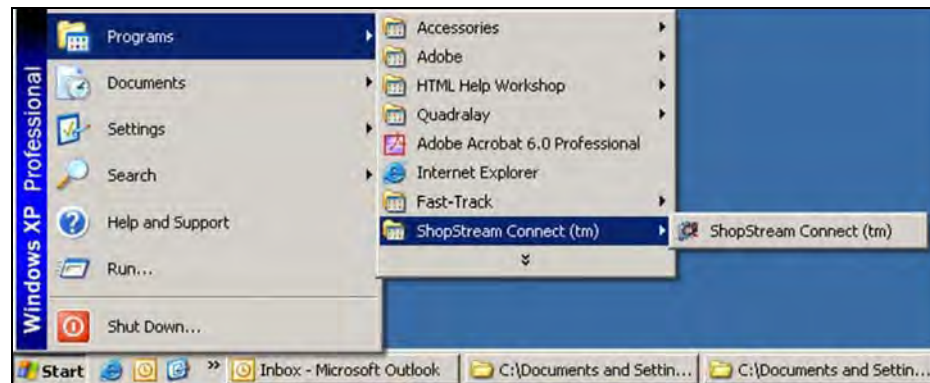

Figure 2-8 Sample Start menu selection
- Select **Start > Programs > ShopStream Connect > ShopStream Connect** (Figure 2-8).